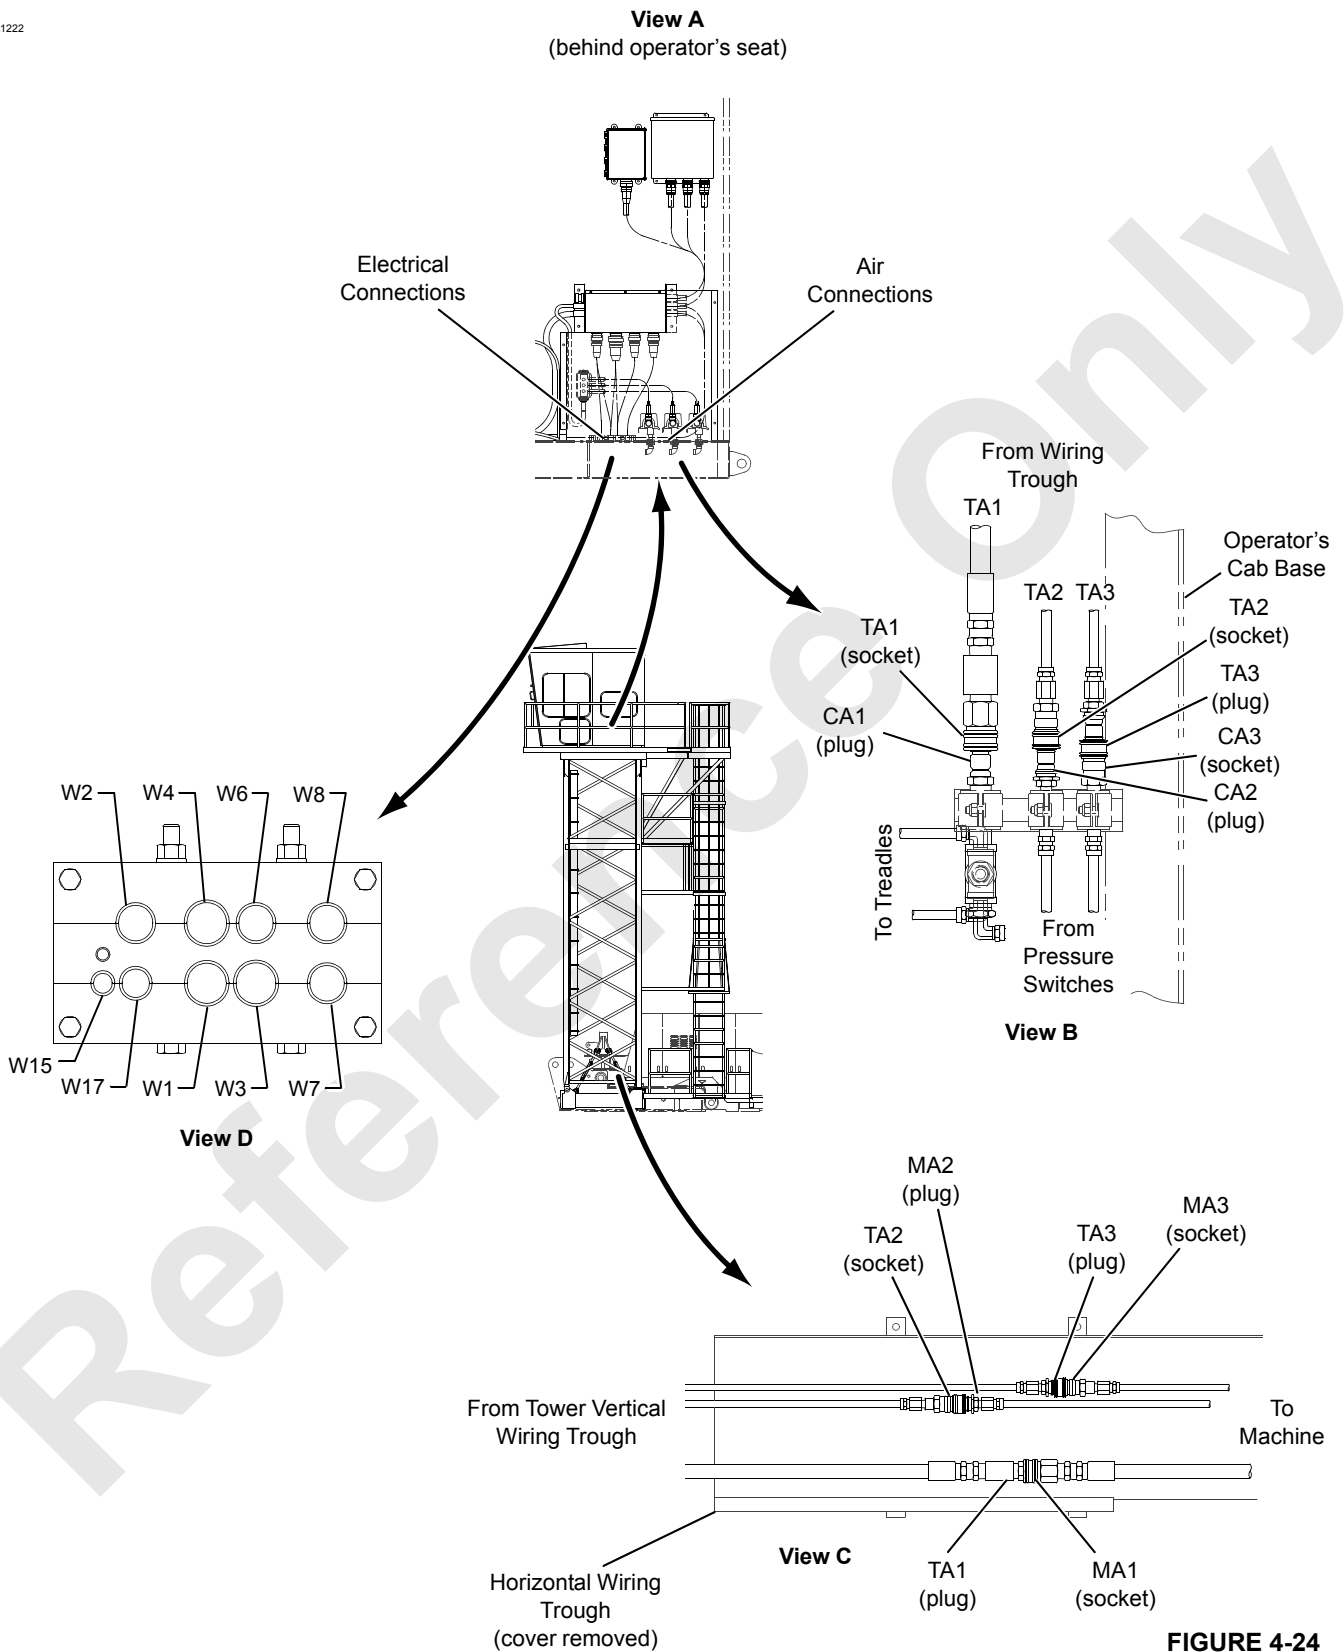

FIGURE 4-24
See Figure 4-24 for the following procedure.
- Tower air hoses from the machine air hoses (Figure 4-24, View C)